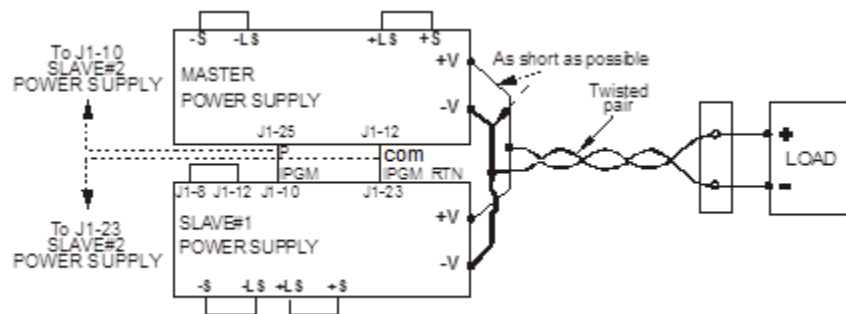

Figure 6-7: Parallel Connection with Local Sensing (Two-Wire Method)
In parallel operation, power supplies can be connected for local or remote sensing. Refer to **Fig. 6-7 and 6-8** for typical connections of parallel power supplies. The figures show the connections for two (2) units, however the same connection method applies for up to four (4) units.